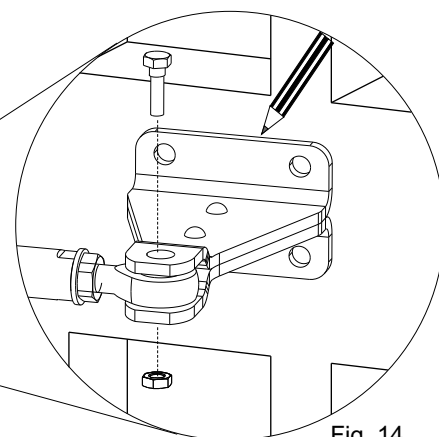

Fig. 14
3. Attach the shaft to the front bracket (Fig. 14).